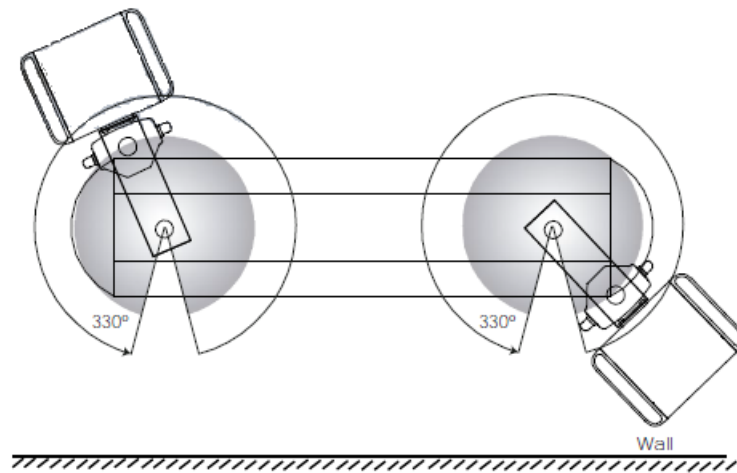

Fig. 10 Swivel range for extension arms on an ABITUS section
- To adjust the right-hand pivot stop on the column, move the column to its maximum position as shown in the upper right-hand side of figure 10.